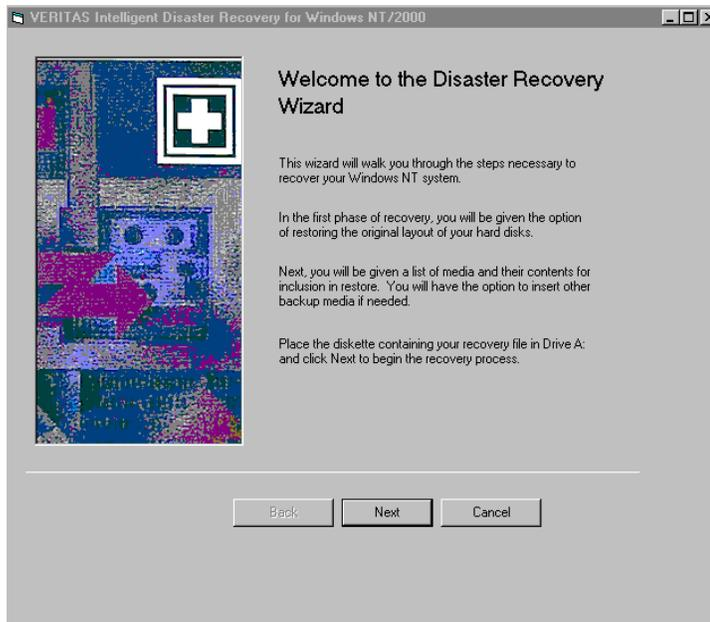

Figure 12: Welcome screen
2. Figure 12 shows the welcome screen that displays for the VERITAS Intelligent Disaster Recovery software. At this time in the disaster recovery process, the tape drive is no longer seen as a CD-ROM but as a tape drive again. Click Next to continue.